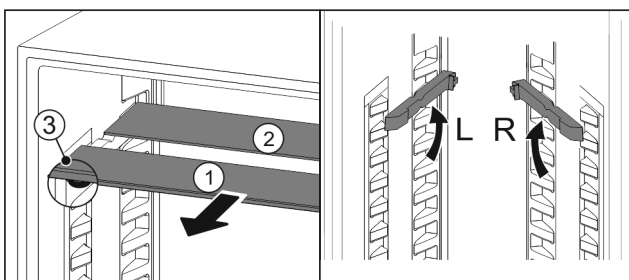

Fig. 59
- Pull the glass panels out Fig. 59 (1) from the front, one at a time.
- The glass panel Fig. 59 (1) and trim strip are at the front.
- The stops Fig. 59 (3) point down.